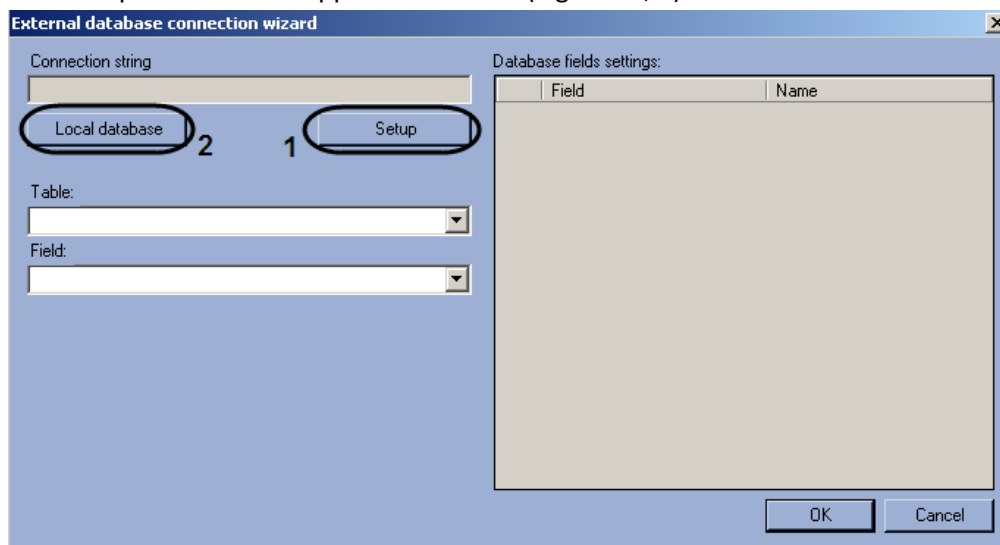

Fig. 7.5-2 External DB connection wizard
4. Click the Setup button in the appeared window (Fig. 7.5-2, 1).
Note1. If the Auto-Intellect PC database should be used as the external database click Local database (see. Fig. 7.5-2, 2) and go on to step 6.